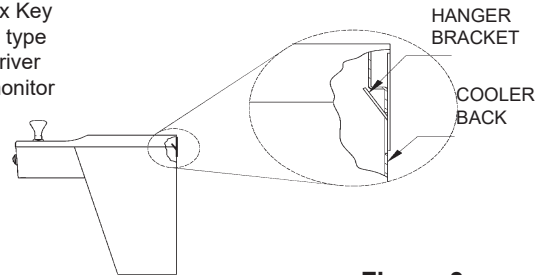

Figure 3
1. Remove hanger bracket fastened to back of cooler by removing one (1) screw.
2. Mount the hanger bracket and trap as shown in Figure 3.
4. Hang the cooler on the hanger bracket. Be certain the hanger bracket is engaged properly in the slots on the cooler back as shown in Fig. 3.
5. Loosen the two (2) screws holding the lower front panel at the bottom of cooler base and two (2) screws at the top. Remove the front panel and set aside.